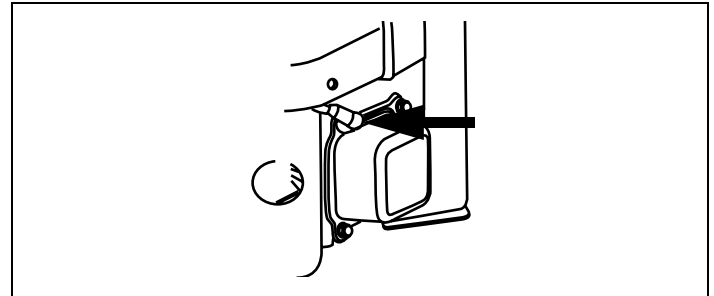

Figure 20. Typical Spark Plug Grounding Post
- Attach the spark plug wires to the grounding posts if provided. See Figure 20.
8. Carefully disconnect spark plug wires from grounding posts, if provided. See Figure 20.